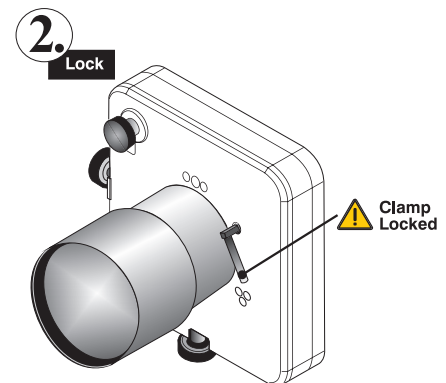

Figure 2-8 Lock Lens In Place
4. Position the lens clamp DOWN to lock the lens assembly in place. See **Figure 2-8**.